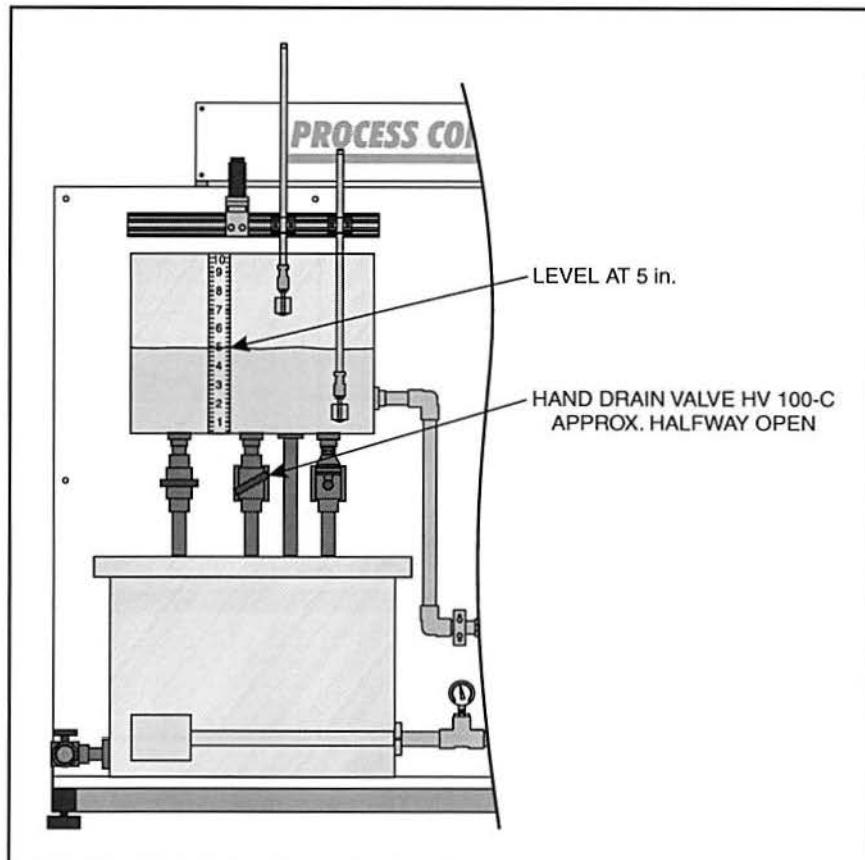

Figure 57. Demand on the Process
- ❑ 9. When the level in the process tank reaches 5 inches, open the right-side hand drain valve of the process tank about halfway, as shown in figure 57.